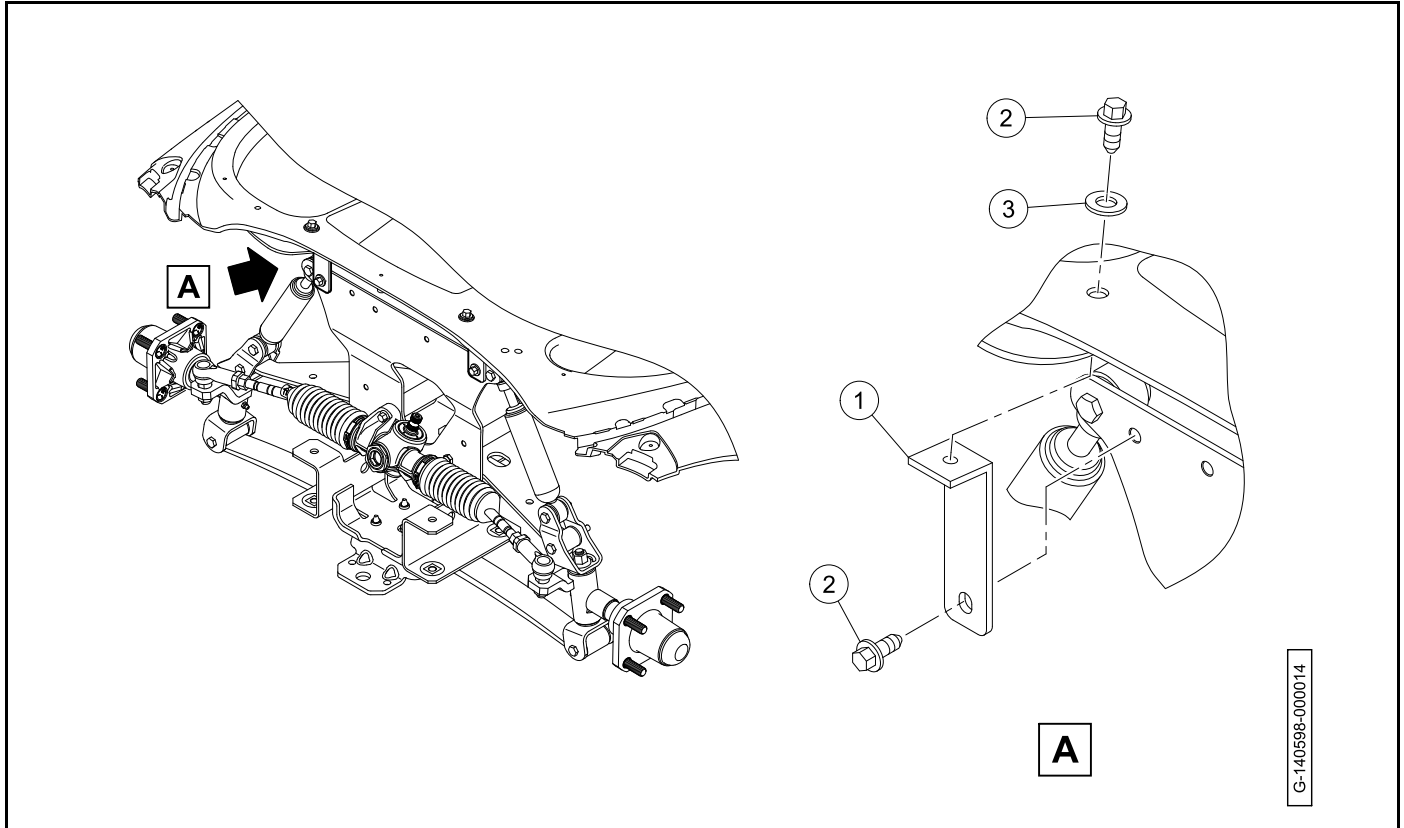

Figure 4-5 Underbody Bracket
1. Remove the two screws (2) and washer (3) (**Figure 4-5**).
2. Remove the underbody bracket (1).
1. Put the underbody bracket (1) into position on the vehicle (**Figure 4-5**).
2. Install the washer (3) screws (2). Tighten the screws to 13 lb·ft (17.6 N·m).